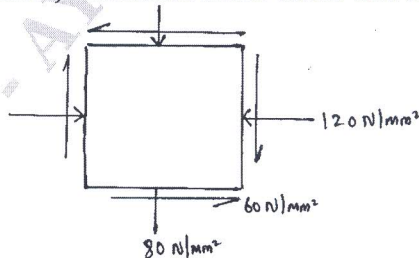

Fig. Q3 (b)
- b. The state of stress in two dimensionally stressed body is shown in Fig Q3 (b). Determine the principle stresses. Principal planes, maximum shear stress and their planes.